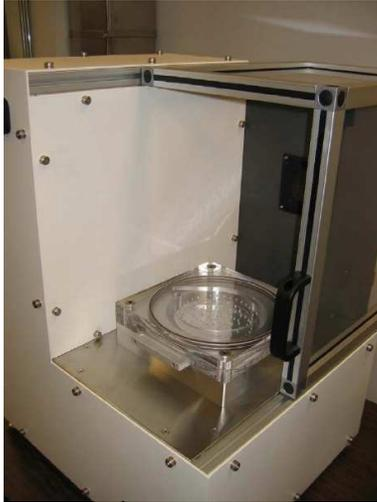

Figure 2.13
10. Step 10 to 14 are optional for capturing images of sample throughout etching. Move the chamber ventilation shroud backward for microscope positioning. (Figure 2.13).